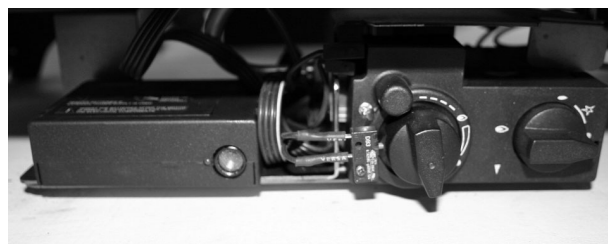

Fig. 17d
4) Position the receiver unit, as shown in Fig. 17d onto the space provided on the valve bracket. Affix the underside of the unit with the double sided tape. Take care to route the wiring harness away from any hot parts and do not obstruct the valve controls. The receiver unit works by ultrasonic so ensure that the receiving round grill is facing to the front of the stove.